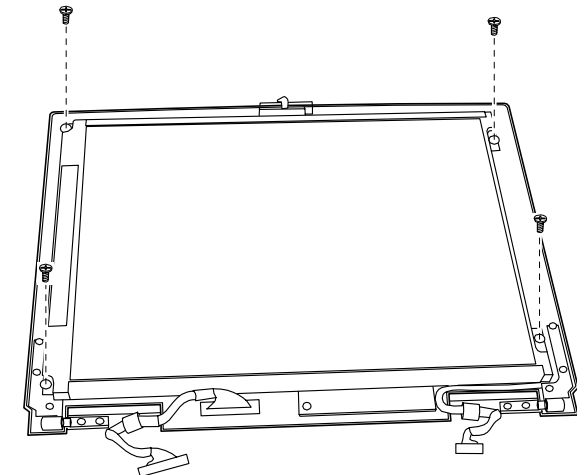

Figure 5-24. Removing the 12.1 Inch LCD
1. Reconnect the cables to the LCD. Fit the LCD back into place and secure with four screws. (Refer to Figure 5-24 earlier.)